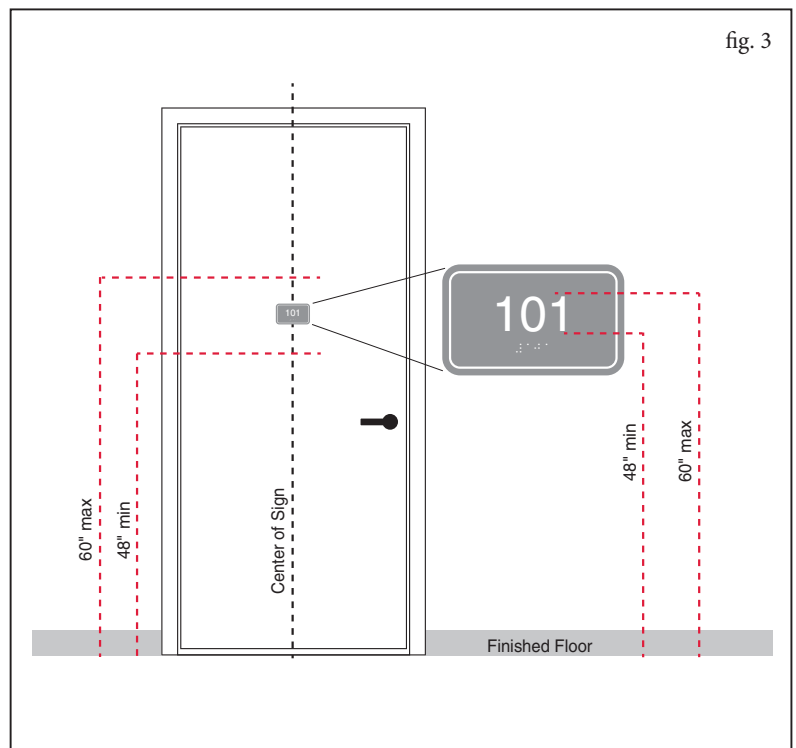

fig. 3
2. Determine the mounting height for your signs. The ADA requires that the baseline of the lowest raised character be a minimum of 48" above the finished floor, and the baseline of the highest raised character be a maximum of 60" above the finished floor. (see fig. 3) Signs with raised characters installed at double doors with one active leaf may be mounted on the inactive (locked) leaf. When the sign is installed at double doors with two active leaves, the sign should be mounted on the wall on the right side of the double doors.